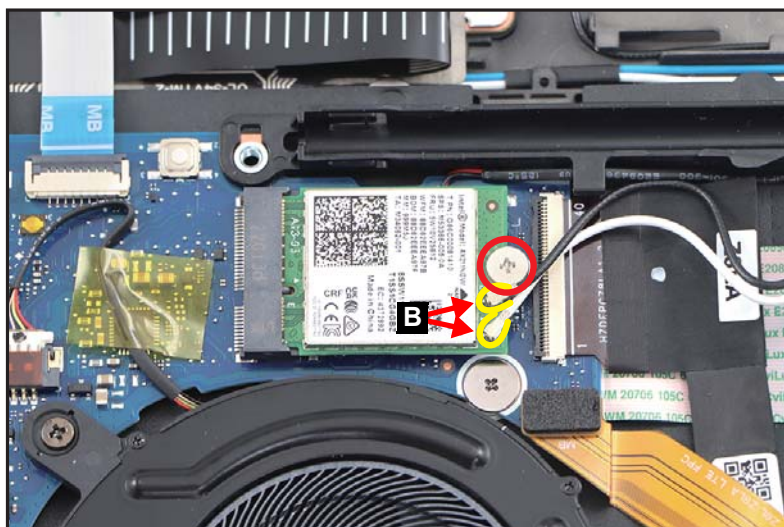

Figure 1-14. WLAN Module Removal
2. Disconnect the WLAN antennas cables from the WLAN module connectors (B) (Figure 1-14).
3. Remove one (1) screw securing the WLAN module (Figure 1-14).